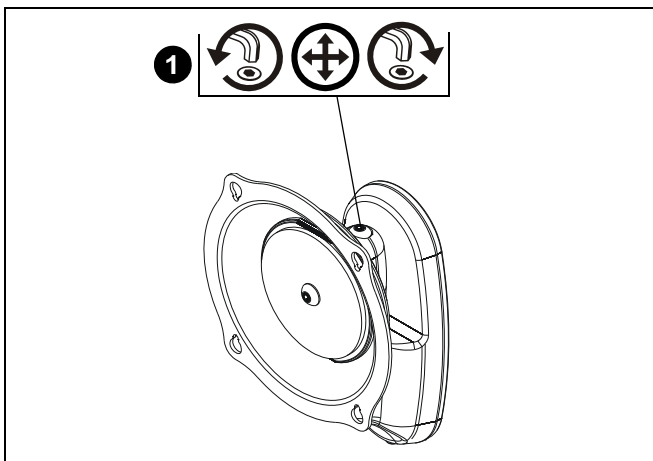

Figure 13
1. Slightly loosen or tighten the adjustment screw as necessary. (See Figure 13)